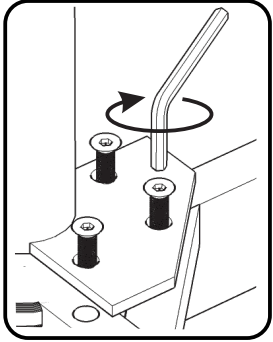

Figure 4
Attach Posts (F) to unit with Head Cap Bolts (short), tightening bolts only half way. (See Figures 4 and 5)